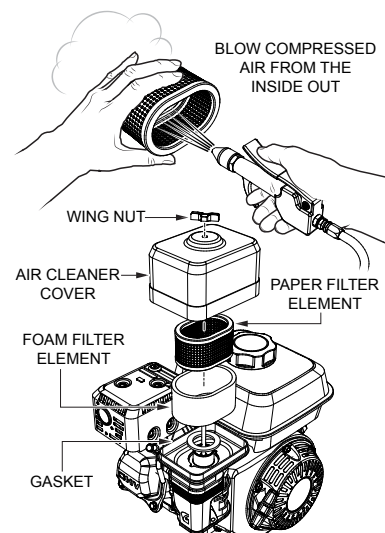

Figure 20. Engine Air Cleaner
1. Remove the air cleaner cover and foam filter element as shown in Figure 20.
2. Tap the paper filter element (Figure 20) several times on a hard surface to remove dirt, or blow compressed air [not exceeding 30 psi (207 kPa, 2.1 kgf/cm²)] through the filter element from the air cleaner case side. **NEVER** brush off dirt. Brushing will force dirt into the fibers. Replace the paper filter element if it is excessively dirty.